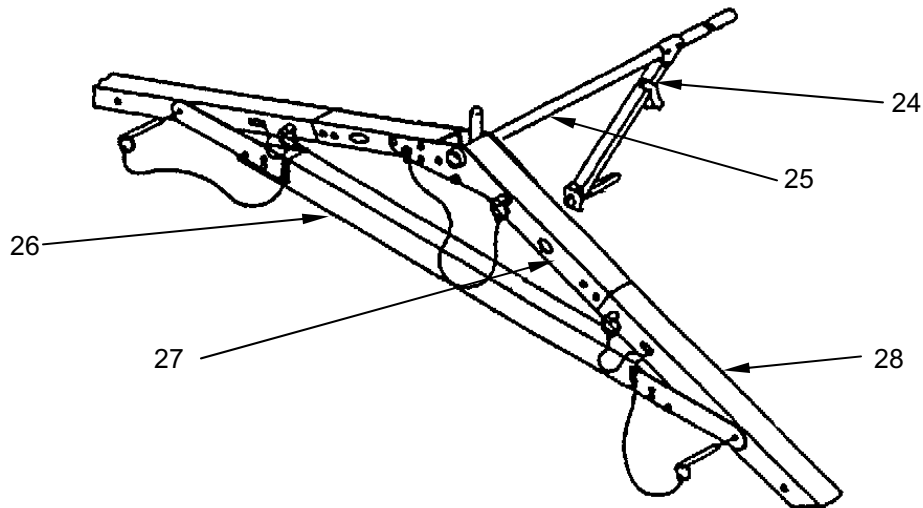

Figure 7. Frame Disassembly.
1. Disconnect each purlin diagonal brace (**Figure 7, Item 24**), fold, and secure.
2. Rotate purlins (**Figure 7, Item 25**) and remove.
3. Remove headers (**Figure 7, Item 26**).
4. Disassemble roof arch (**Figure 7, Item 27**) and side arch assembly (**Figure 7, Item 28**) and fold.